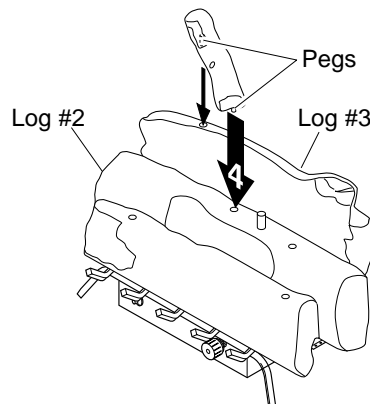

Figure 27 - Installing Crossover Log (#4)
4. Locate pegs on the bottom of crossover log (#4). Slide these pegs into the holes located in middle log (#2) and back log (#3). See Figure 27 for placement.